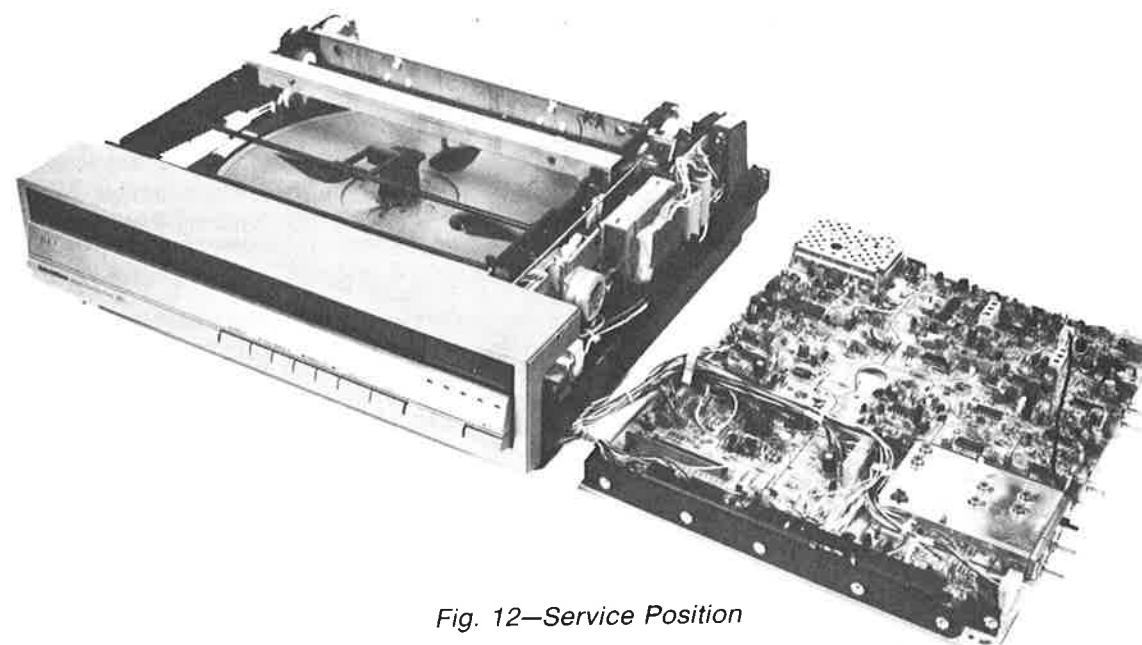

Fig. 12—Service Position
- Place instrument and circuit board in upright position (Fig. 12), reinstall receiver spindle assembly and reconnect front panel flex cable to flex cable connector. Instrument is now in operational service position.